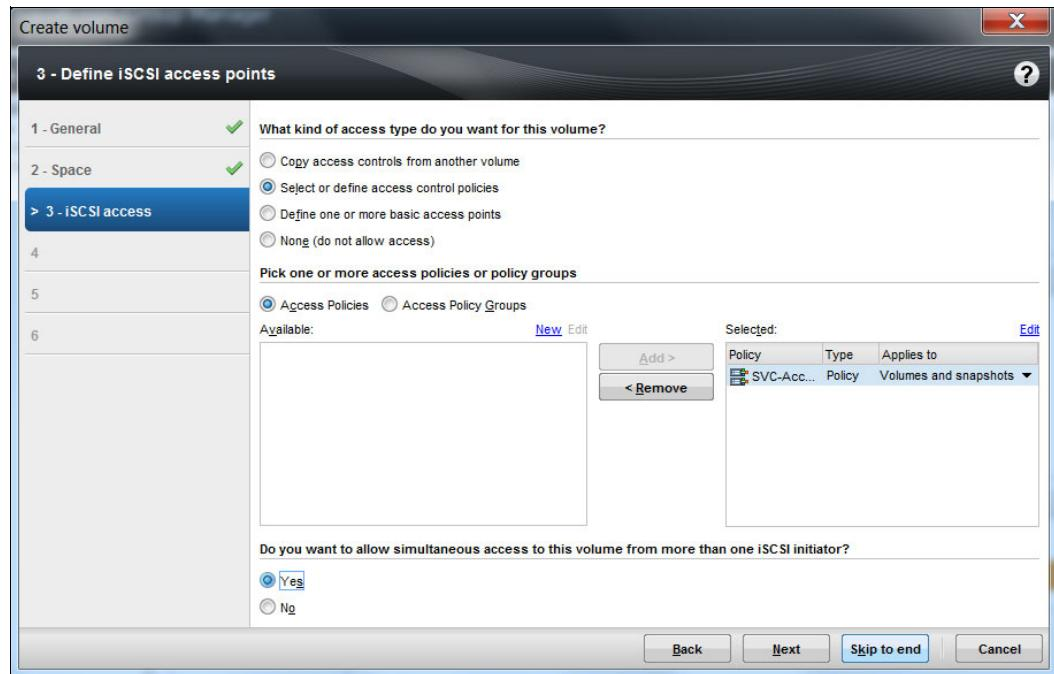

Figure 14-17 Allowing simultaneous access to more than one iSCSI initiator
- If you need default Dell controller settings, click **Skip to end**, as shown in Figure 14-17. Otherwise, select **Next** to change the sector size and specify the size that is recommended by Dell configuration guidelines for controller virtualization.